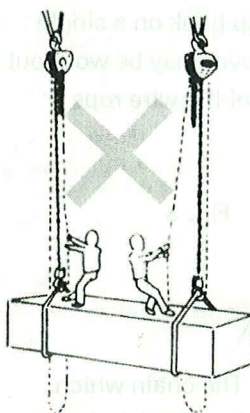

Fig.5
- 5) Do not get on a load to be lifted and do not stay under a load lifted. (Fig. 5)